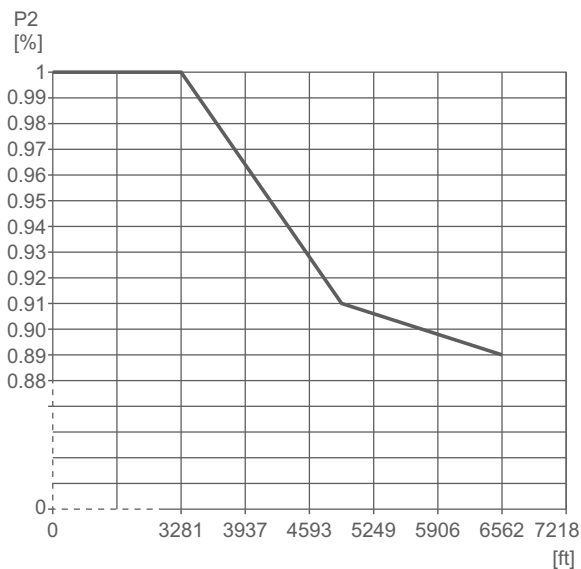

Fig. 3 Derating of motor output power (P2) in relation to altitude above sea level
- Motors installed more than 3281 ft (1000 m) above sea level must not be fully loaded due to the low density and consequent low cooling effect of the air. See fig. 3.